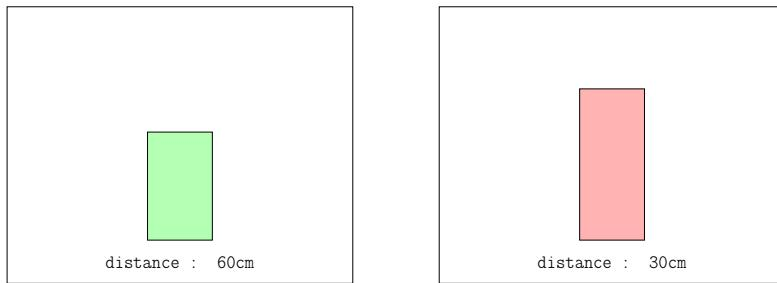

Figure 3: display example: sensor returns a long distance at left and a shorter at right
The distance to the obstacle is given by the duration of the Echo pulse. We use the EXTI peripheral to detect rising/falling edges, and a timer (TIM7) as a stopwatch to get the pulse width. The measure is stored in a global variable (figure 3).
**Question 4** Use the text and graphic functions of the TFT display to make a user interface as shown in figure 3. The bargraphs gets higher when the distance to the obstacle gets shorter. You can use colors.